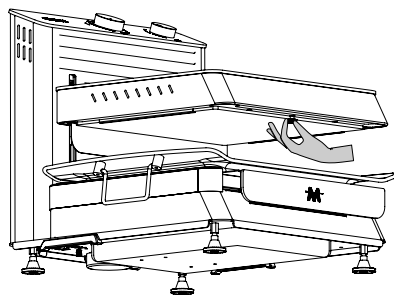
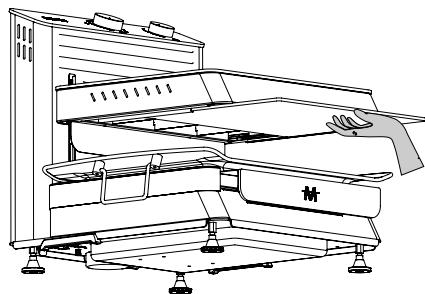

Figure 18
Figure 19
- To clean the filament protection glass, remove the glass retaining pins by turning them clockwise (Figure 18). Then separate the filament protection glass from the product by dragging it with the help of the grooves (Figure 19).